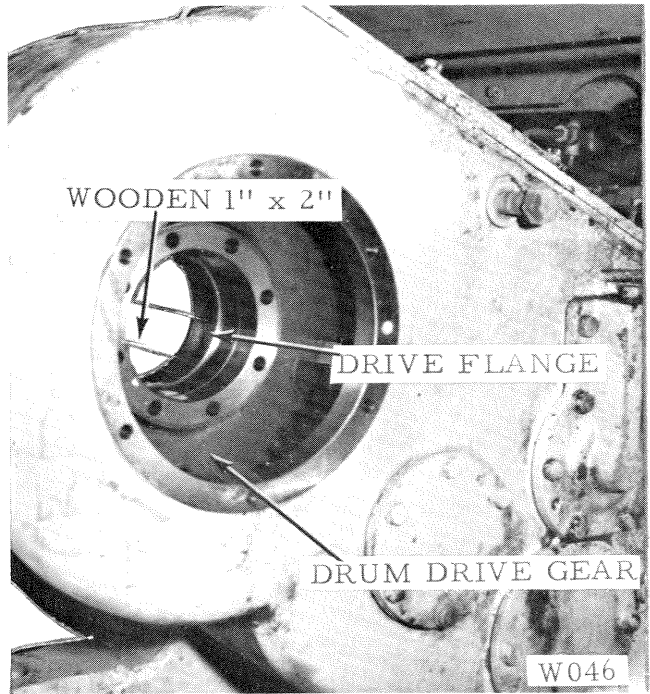

Figure 52
5. If the drive flange was not forced off the drum during shaft removal, insert a long piece of wood through the right side of the winch, through the drum and against the hub of the driving flange. Rap the end of the wood with a hammer until the flange is driven out of its counterbore in the drum. Fig. 52.